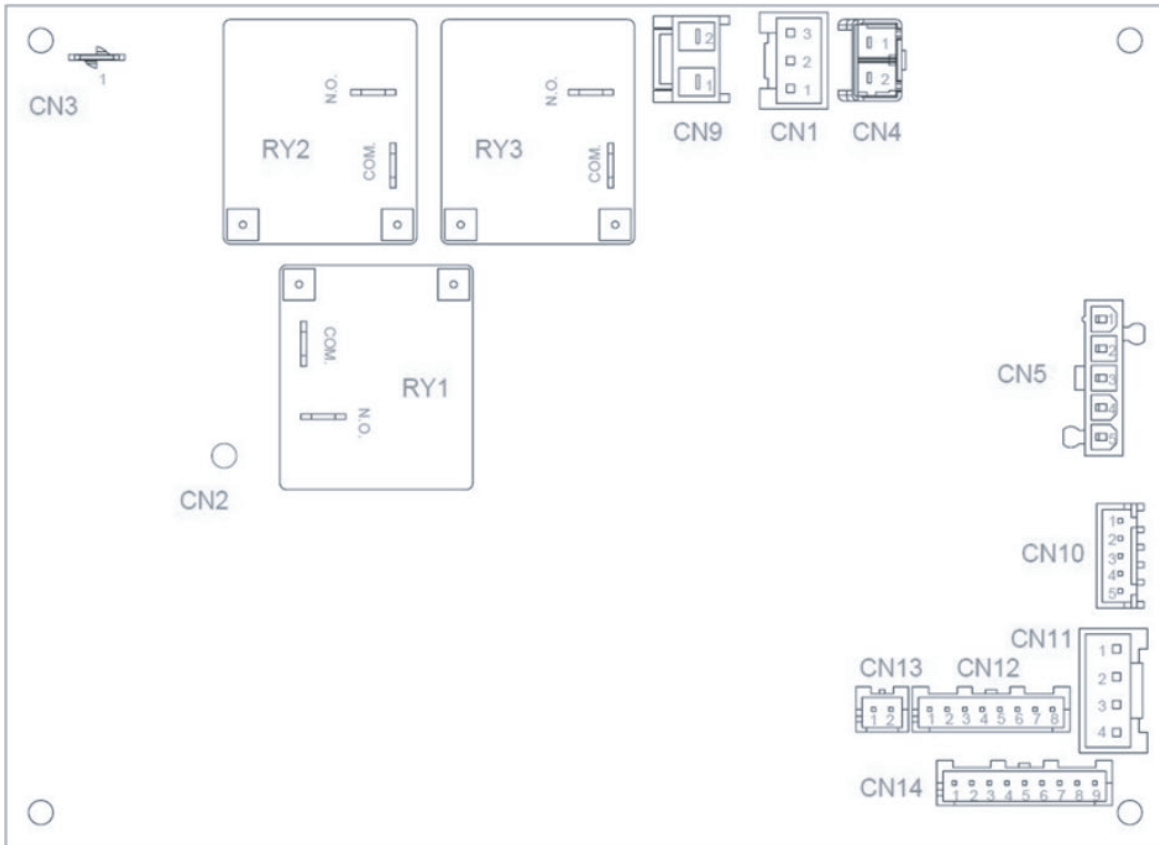

Figure 2. CCB Layout
- 4) Take a photo of all connections to the CCB for reference. Also see Figure 2 for reference.
- 5) Disconnect all the connectors to the CCB. Disconnect the CCB grounding wire from the enclosure. Remove the (4) mounting screws using the Philips 2 screwdriver.
- 7) Place the new CCB in the same location with the same orientation. Secure the new CCB to the enclosure with the (4) mounting screws. Re-attach the CCB grounding wire to the enclosure.